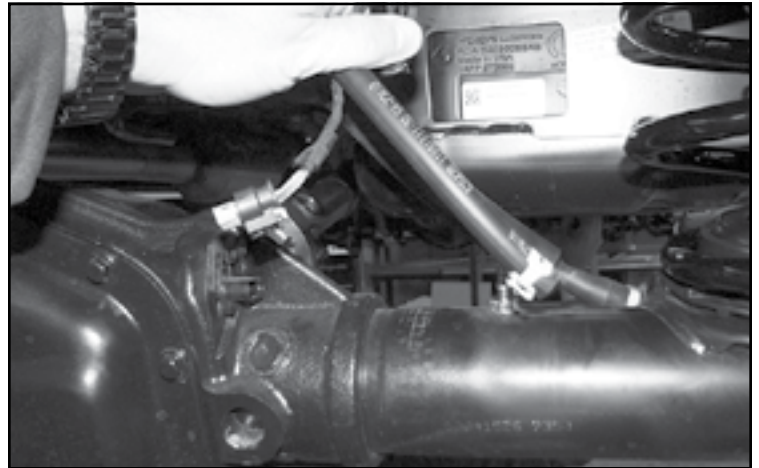

FIGURE 31 - STEP 30
30. Unplug the locker harness from the axle (**RUBICON MODELS ONLY**) SEE FIGURES 31